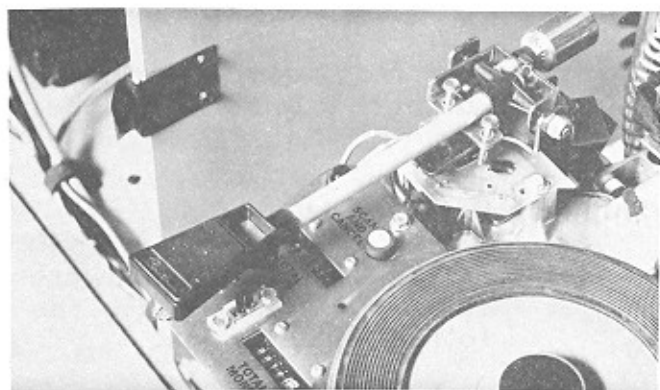

Figure 2-3. Turntable Hold-Down Clip
3. Remove the turntable hold-down clip and screw. Replace the screw (See Figure 2-3.).